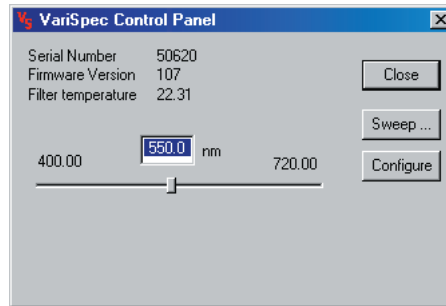

Figure 9. VariSpec Control Panel
1. When launched (select **Start > Programs > CRI > VsGui.exe**), the **VariSpec Control Panel** will appear (Figure 9).
4. Click the **Close** button when finished to return to the **VariSpec Control Panel** (Figure 9).